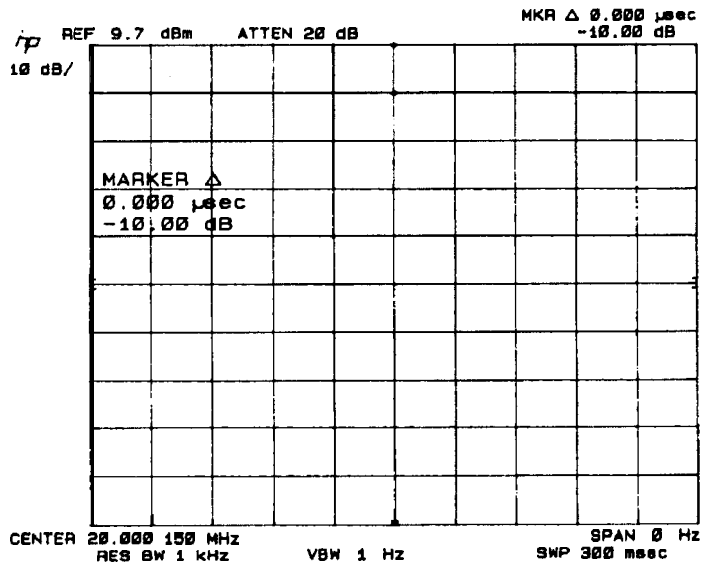

Figure 2-12. Amplitude Fidelity Measurement
6. Press **MARKER** **[Δ]**. Step the frequency synthesizer output amplitude from + 10 dBm to -80 dBm in 10 dB steps, noting the **MARKER A** amplitude (a negative value) at each step and recording it in column 2 of Table 2-12. Allow several sweeps after each step for the video filtered trace to reach its final amplitude. (See Figure 2-12.)